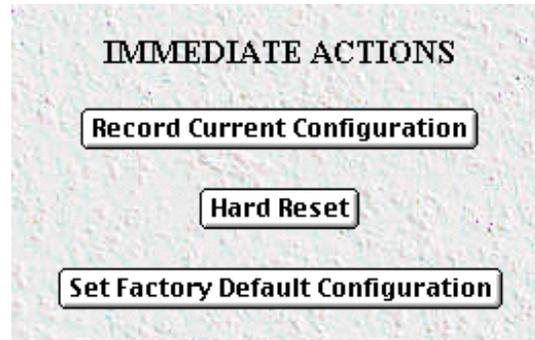

Figure 19. Immediate Actions buttons
- **Record Current Configuration**—clicking on this button (figure 19) causes the current configuration to be stored in FLASH memory. Any changes made to the RAS configuration are stored in non-volatile RAM first. This allows the user to set the box up with a working configuration before committing it to FLASH. Configuration changes become permanent when you select **Record Current Configuration**. You will *lose* all changes *not* stored to FLASH the next time the RAS is re-booted.
- **Hard Reset**—this button (figure 19) causes the RAS to perform a cold restart. When you select **Hard Reset**, the RAS confirms that you want to execute this command. Then, the RAS will disconnect all current sessions, re-initialize the interfaces, and re-load configuration parameters from FLASH.
- **Set Factory Default Configuration**—this button (figure 19) clears out the configuration in FLASH and loads the factory default parameters into FLASH memory. The factory default settings *will not* execute on the RAS until it is re-booted.
Note **Set Factory Default Configuration** (figure 19) will delete any routing information, the RAS's Ethernet IP address, and any other site specific settings made for your particular installation. You will have to re-enter the RAS's Ethernet IP address and netmask using the front panel control port in order to use the HTTP/HTML Management pages.